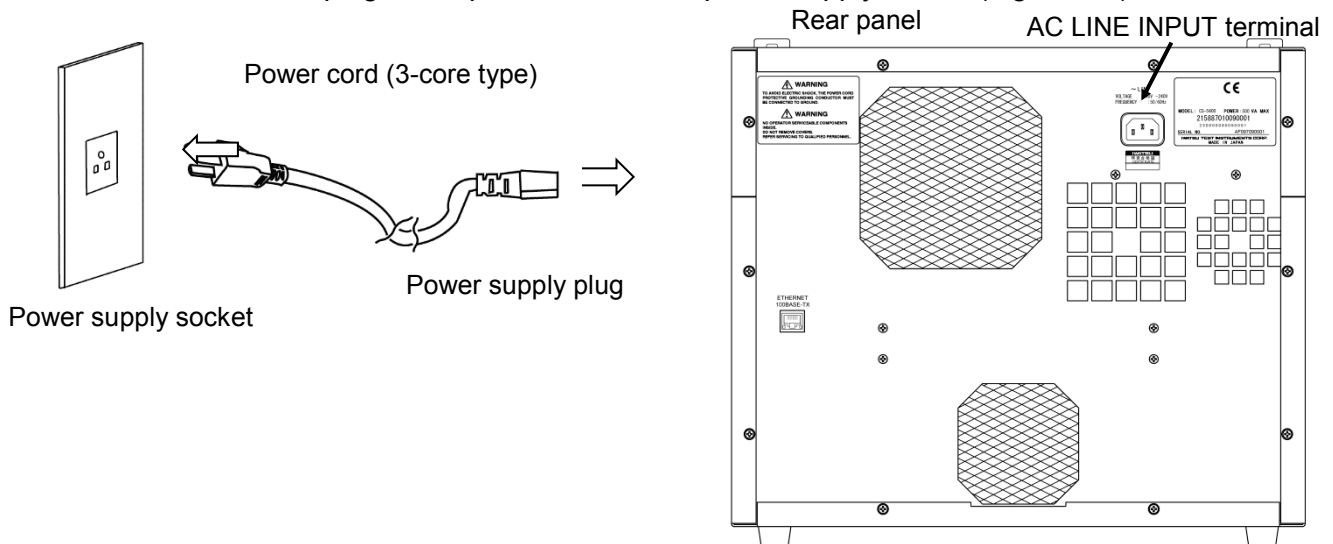

Figure 3.2 Connection of power cord (CS-5200/5300/5400)
- ① Insert the plug of the attached power cord into AC LINE INPUT terminal for the power cord connection on the rear panel (Figure 3.2).
- ② Connect the other plug of the power cord to the power supply socket (Figure 3.2).